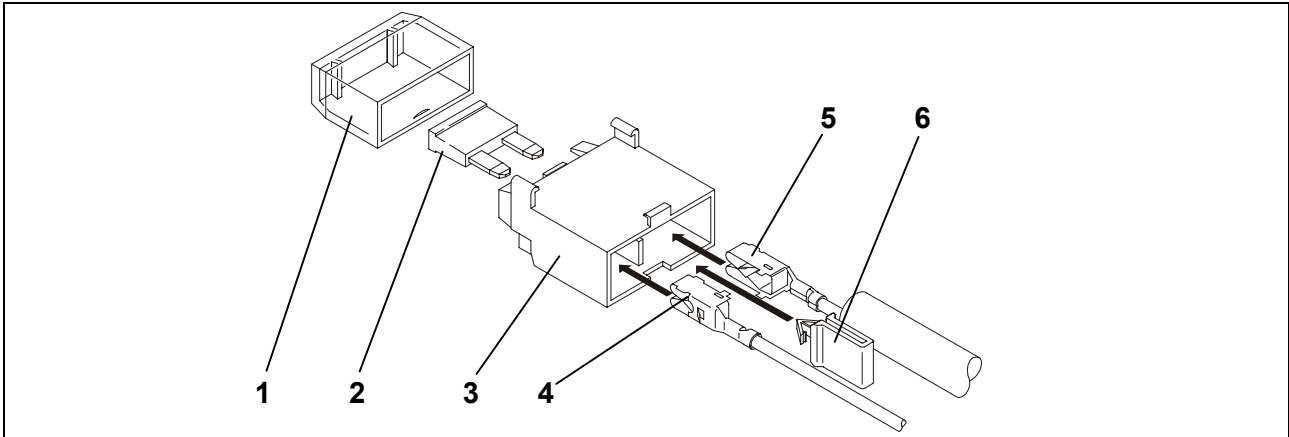

Fig. 1.: Fuse holder assembly
10. Let the quick-connect receptacle of the red cable (Fig. 1/5) of the cable harness and the one of the supplied single red cable (Fig. 1/4) lock into place in the fuse holder (Fig. 1/3).
11. Install the yellow clip (Fig. 1/6).
12. Insert the fuse (Fig. 1/2) and fit the cover (Fig. 1/1).